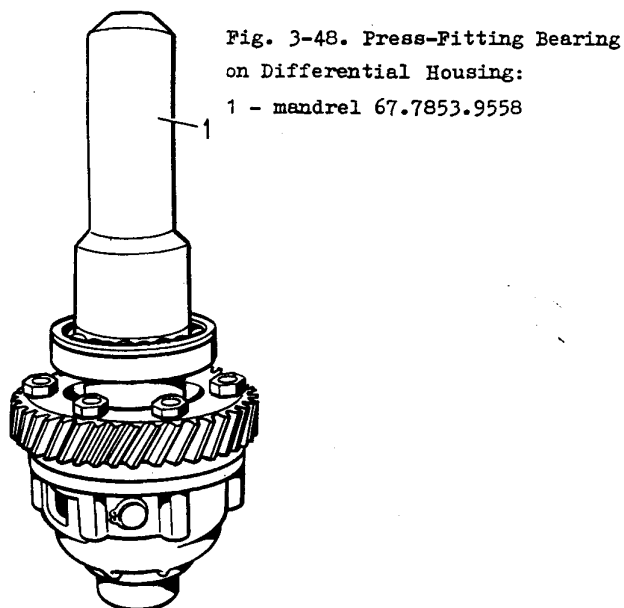

Fig. 3-48. Press-Fitting Bearing on Differential Housing:
- press the bearings on the differential housing with mandrel 67.7853.9558 (Fig. 3-48);